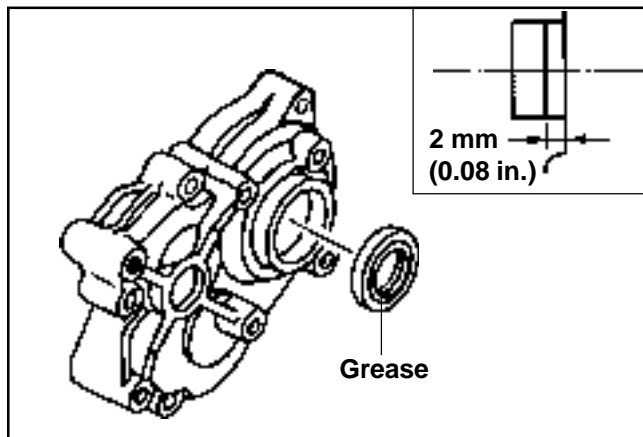

Figure 11-3. Installing Oil Seal.
- Use a seal driver and install the crankshaft oil seals (manufacturer's numbers visible) into crankcase and closure plate. Seals should be installed to a depth of 2 mm (0.080 in.) below outer surface. See Figure 11-3. Apply a light coating of lithium grease to seal lips when installing.